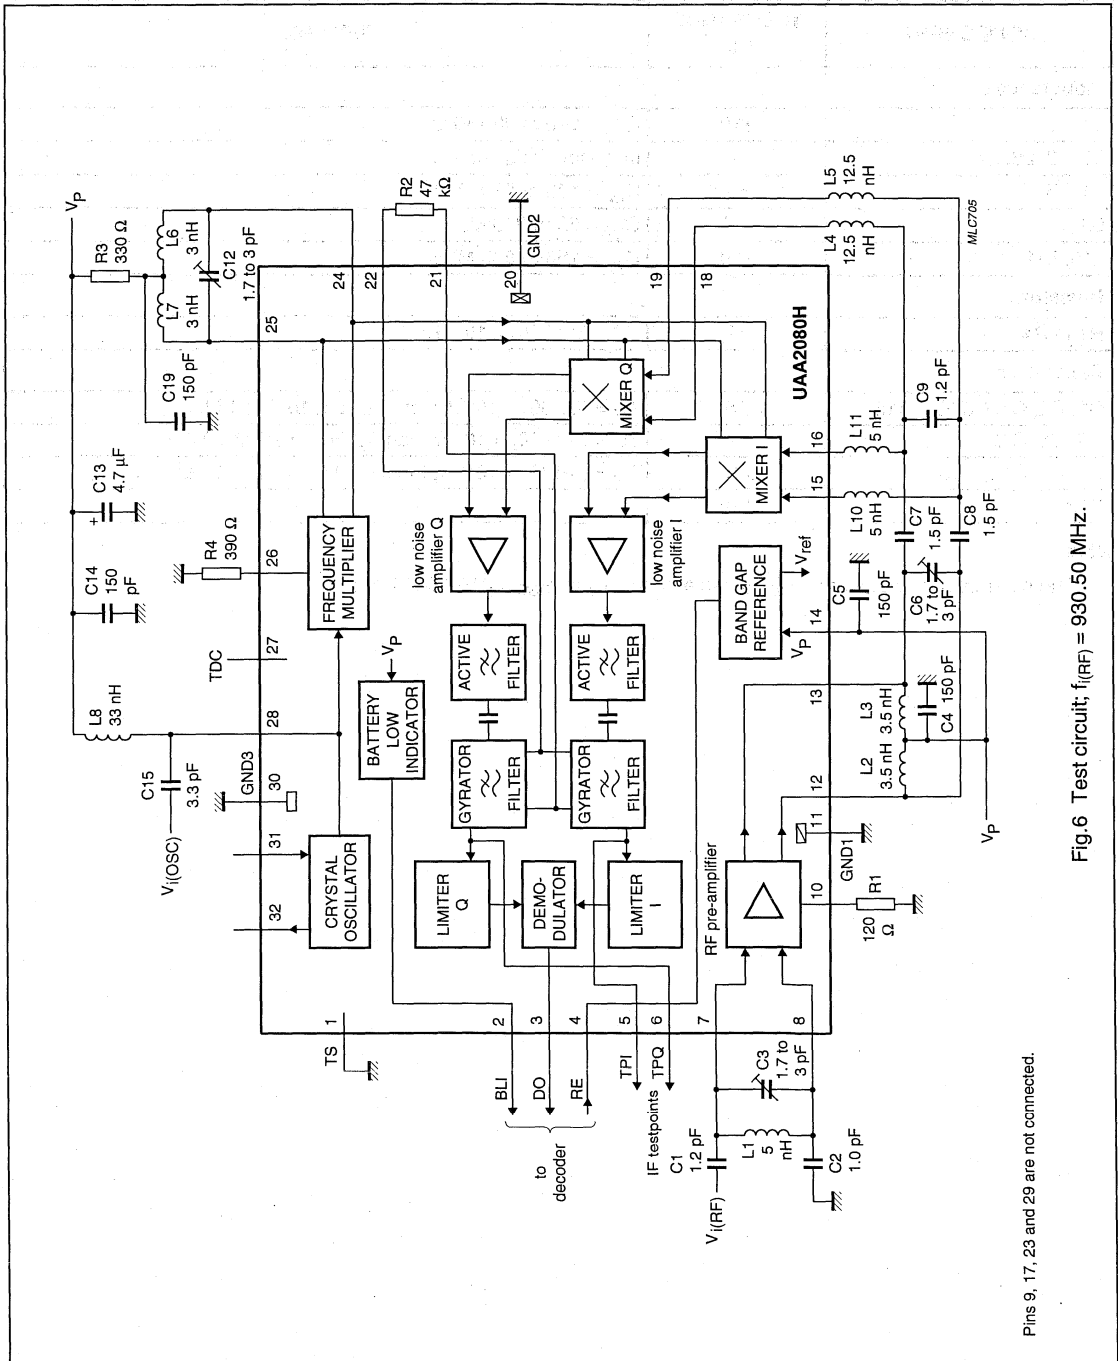

Fig.6 Test circuit;  $f_{(RF)} = 930.50$  MHz.
**Table 3** Tolerances of components shown in Fig.6 (note 1)